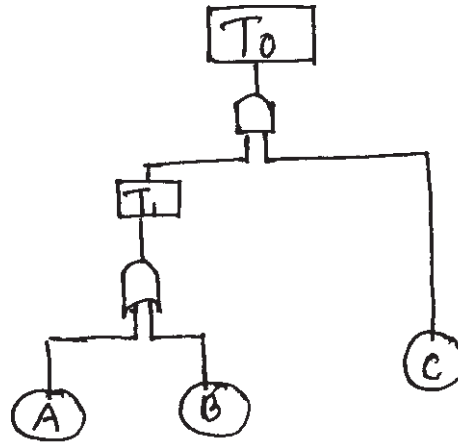

Fig. 1
- b)** Figure 1 Show a FMEA diagram with basic failure rates as 0.002, 0.003 and 0.004 per hour for A, B and C respectively. Find out the failure rate of To assuming mission time of 100 hours. [10]